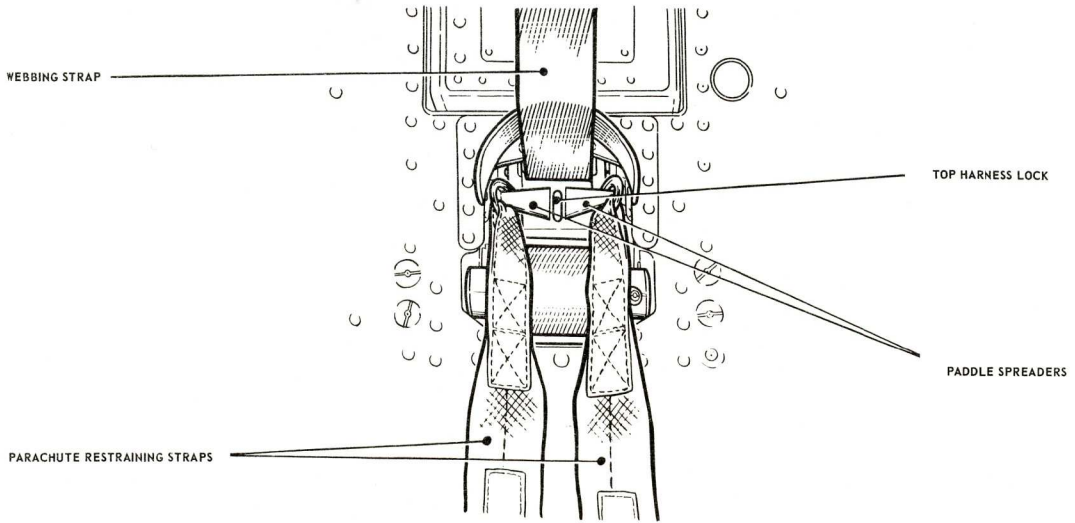
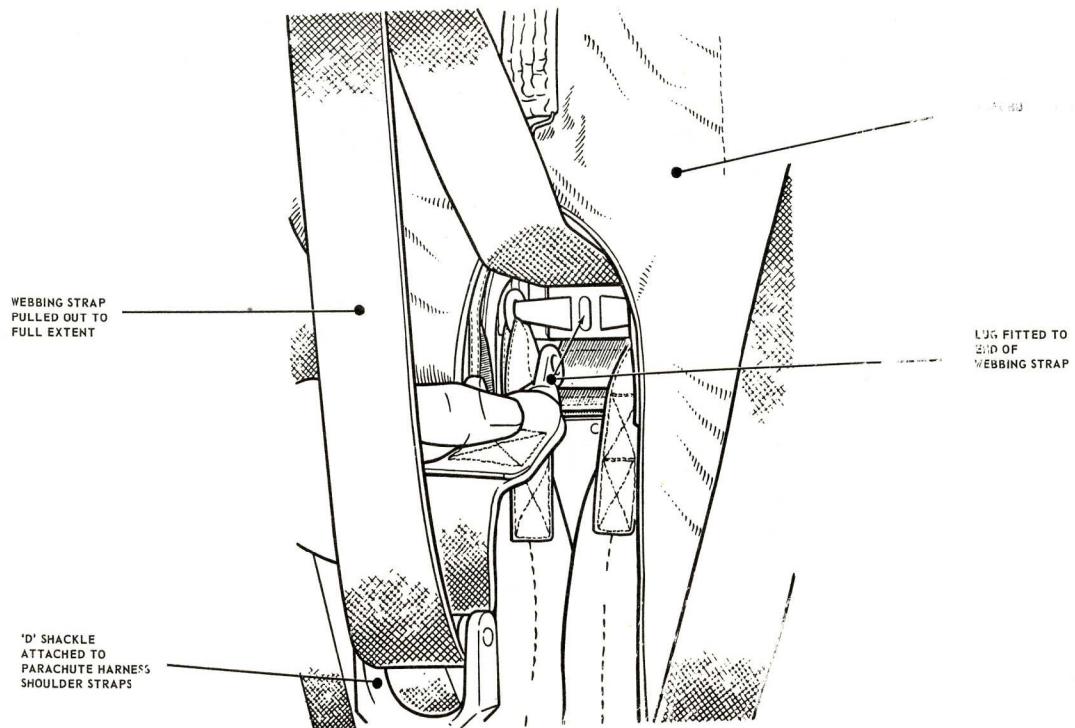
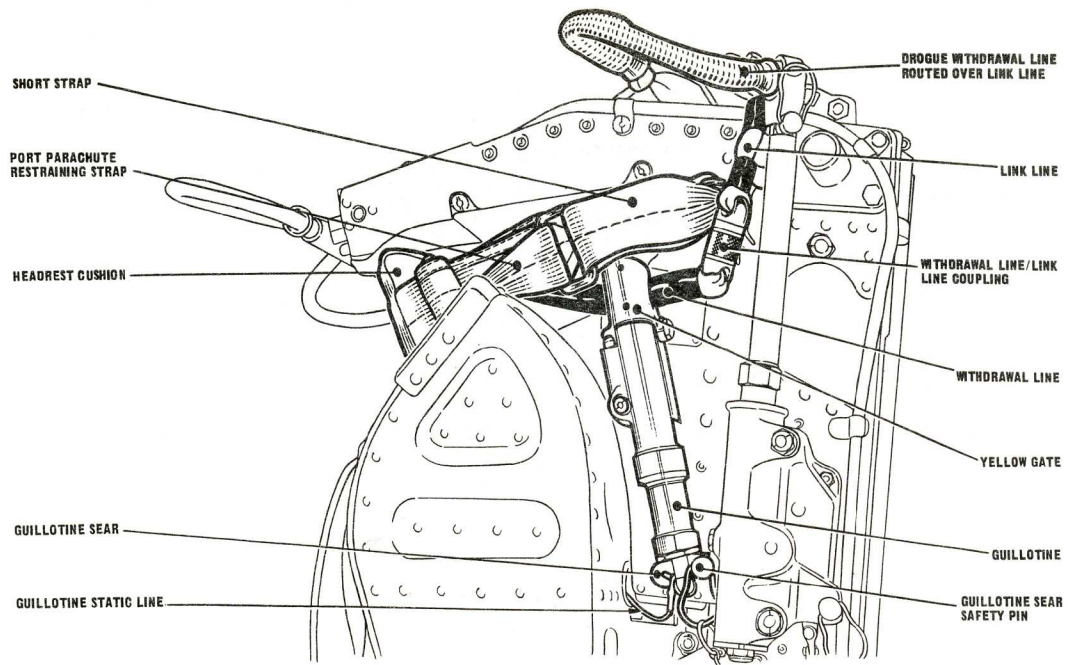

Fig. 2. Attachment of parachute restraining straps to paddle spreaders
Fig. 3. Insertion of lug into top harness lock
Fig. 4. Arrangement on port side of drogue container
- (1) The emergency oxygen system is to be fitted in accordance with A.P.4288D, Vol. 5, before the seat is installed in the aircraft.
- (2) Remove and retain the safety pin from the emergency oxygen cylinder operating head and ensure that the 'tell-tale' wire is intact.
- (3) Ensure that the seat pan is clean and that the leg restraint cords are clear of the pan.
- (4) Open the paddle spreaders, situated in front of the top harness lock, and pass the 'O' rings of the two parachute restraining straps over the paddle spreaders, one over each spreader. Ensure that each 'O' ring is pushed well back towards the pivot end of its paddle spreader and close the paddle spreaders inwards towards each other as far as they will go (*fig. 2*).
- (5) Place the parachute pack in its container, guiding the static line for the guillotine through the aperture in the back plate. Push the pack well into the container so that it is supported on the support bracket. Bring the two parachute restraining straps through the arch of the pack, ensuring that they are not crossed.
- (6) Ensure that the manual separation handle is in the locked position.
- (7) Move the 'go-forward' lever to the fully forward position and then release it to the centre position. Pull out the webbing strap from under the parachute support bracket and hold it against the spring tension.
- (8) Pass the webbing strap DOWNWARDS through the 'D' shackle attached to the harness shoulder straps, ensuring that the harness straps are not twisted. Insert the lug (fitted to the end of the webbing strap) between the inner extremities of the paddle spreaders into the top harness lock in the back of the seat (*fig. 3*). Push the lug in until it locks into position. It may be necessary to partially depress the harness release lever (situated below the barostatic time release unit) to facilitate the insertion of the lug. Check that it has locked correctly by pulling on the webbing strap. Move the 'go-forward' lever to the rear position and allow the strap to wind back.
- (9) Connect the two halves of the parachute withdrawal line/link line coupling. Open the yellow gate on the top of the guillotine and route the parachute withdrawal line through the aperture in the guillotine. Close the yellow gate and ensure that it correctly retains the parachute withdrawal line.
- (10) Draw the free ends of the parachute restraining straps forward through the arch of the parachute pack, over the pack, and towards the rear of the seat, on either side of the drogue container.
- (11) Pass the port restraining strap over the parachute withdrawal line and insert its end through the buckle of the short restraining strap on the port side of the drogue container, from the outside inwards. Ensure that the drogue link line, which is connected to the parachute withdrawal line is routed OUTSIDE the restraining short strap (*fig. 4*).
- (12) Insert the end of the starboard restraining strap through the buckle of the short restraining strap on the starboard side of the drogue container, from the outside inwards.
- (13) Position the headrest wedge pad on the top of the parachute pack, between the pack and the drogue container. Pass the ends of the parachute restraining straps through the buckles on each side of the headrest wedge pad so that the ends emerge on the outside of the buckles.
- (14) Work the straps back and forth in the self-locking buckles on the headrest wedge pad until the parachute pack and wedge pad are strapped tightly to the seat. Pass the free ends back through the buckles on the short restraining straps and stow them neatly between the drogue container and the strap.
- (15) Check that the drogue withdrawal line has been routed OVER all other lines (*fig. 4*).
- (16) Ensure that the safety pin is fitted through the sear of the guillotine firing unit. Attach the guillotine static line to the sear.
- (17) Lift the harness clear of the seat pan and fit the negative-G restraint strap as follows
- (18) Fit the personal survival pack into the seat pan, draping the lowering line over the port side of the pan.
- (19) Secure the cushion to the seat strap of the harness by passing the strap under the cushion and locating it in position with the two press-studded beackets.
- (20) Pass the leather covered straps of the cushion through the two webbing loops on either side of the personal survival pack from rear to front. Pass the leg straps of the combined harness up through the slot in the cushion and secure the cushion to the pack with the lift-the-dot fasteners. Ensure that the leg loops are not crossed.